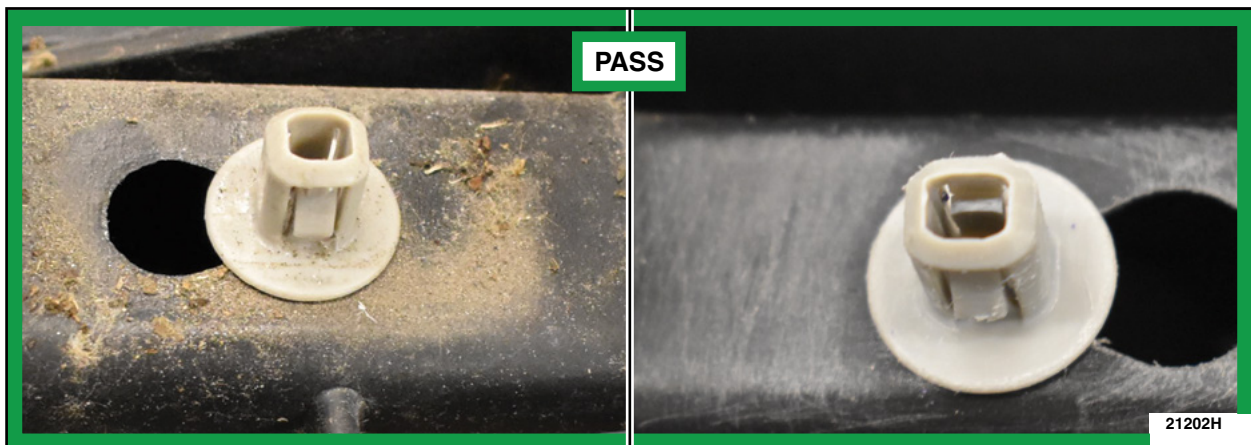

FIGURE 9
d. Inspect the retaining towers (7 each side) on the interior or underside of the affected roof rail cover(s). See Figure 9.